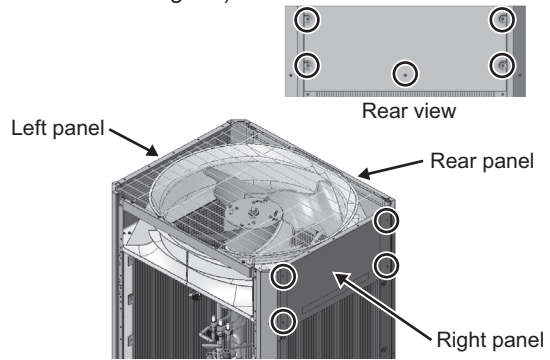

Fig. 28
(5) Remove the top panel except the front panel. (Four screws on the left and right each, and five screws on the rear: Fig. 28)